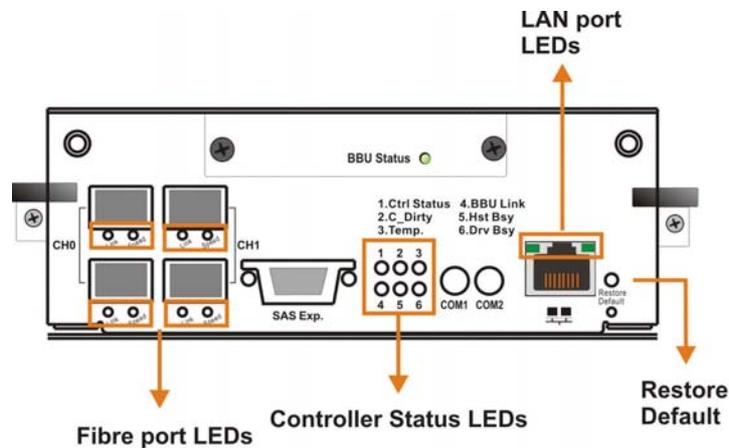

Figure 4-6: LEDs on the Controller Module
The controller faceplate is shown in *Figure 4-6*. Four (4) different types of LEDs are present and described in the following sub-sections.
Each controller module houses four (4) 4G FC host ports. Each of these Fibre ports has two (2) LEDs (see *Figure 4-6*) for displaying the operating statuses.
A restore default LED is located above the restore default push button on the lower right corner of the controller faceplate. (See *Figure 4-6*) To restore firmware defaults, press and hold the button before turning on the subsystem. Once the factory defaults are successfully restored, the restore default LED lights green. You may then release the button.